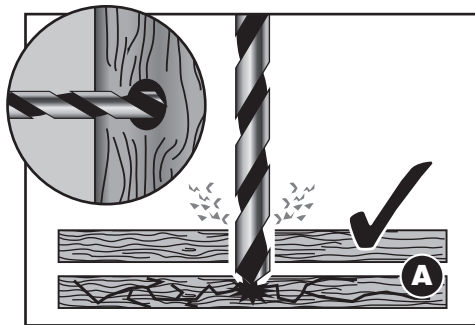

FIG.9
9.13 DRILLING WOOD AND PLASTIC – FIG. 9